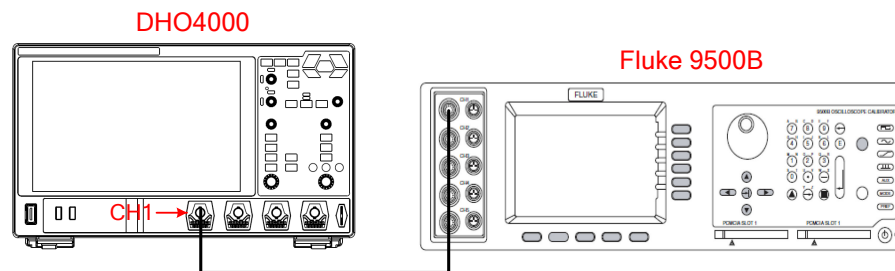

Figure 5.5 Bandwidth Test Connection Diagram
1. Connect the active head of Fluke 9500B to CH1 of the oscilloscope, as shown in *Figure 5.5*.
1. Connect the active head of Fluke 9500B to CH1 of the oscilloscope, as shown in Figure 5.5.